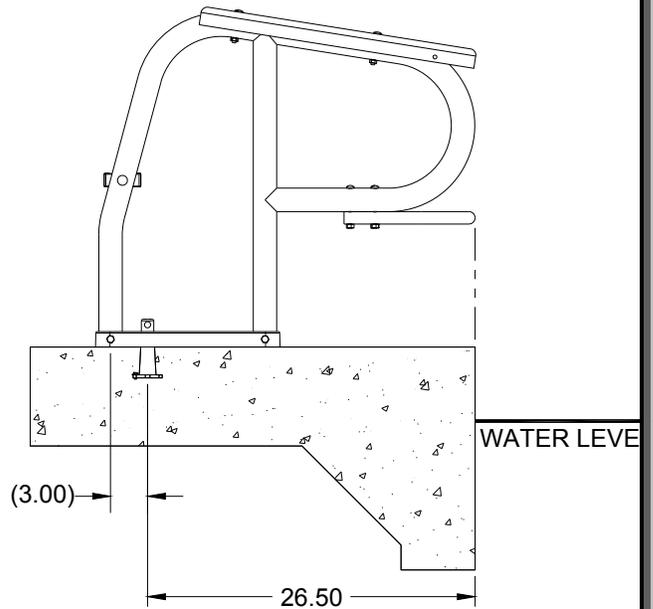
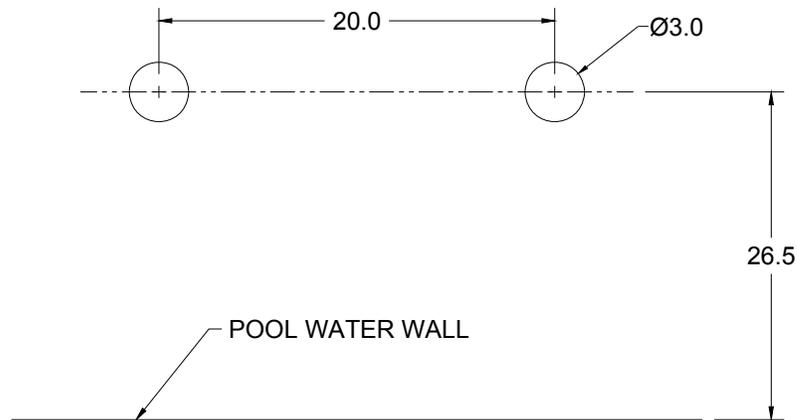
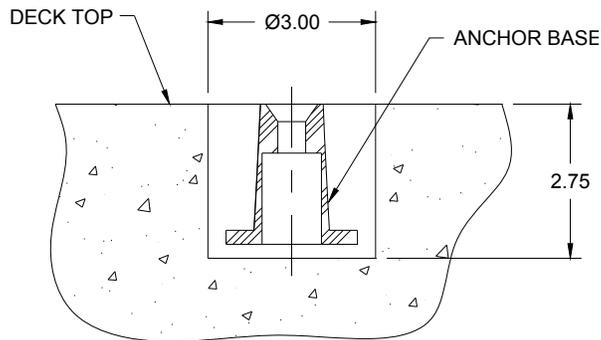

FIGURE 3
FIGURE 4
FIGURE 5
1. **NOTE:** Position Center of Anchor 673mm back from pool wall. See **FIGURE 3** and **FIGURE 4**.
4. Cut Two 76mm diameter holes, 70mm deep in the existing deck. Place the holes according to **FIGURE 4**. (Make certain dimensions from pool water wall of pool are used – not from curb at deck top).
5. Insert the anchor in the hole so that the top of the anchor is flush with the deck top (see **FIGURE 5**) and the anchor is centered in the hole. Verify that the anchors are in the correct position according to **FIGURES 4 & 5**.